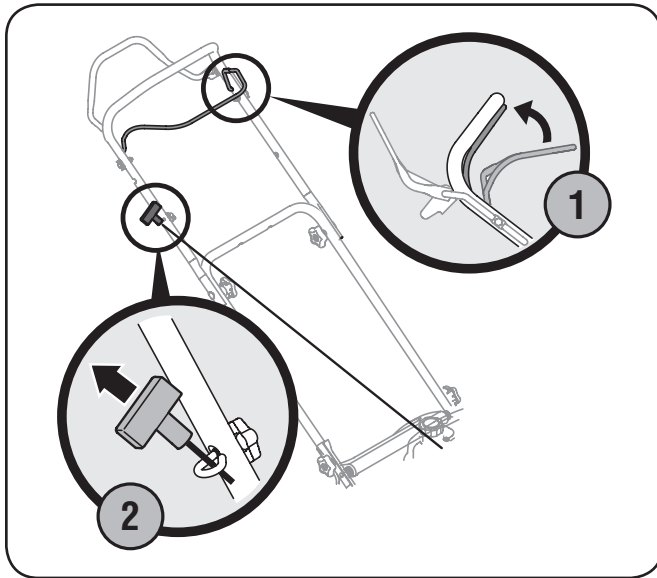

Figure 5-3
1. Standing behind the mower, depress the blade control handle and hold it against the upper handle. See Fig. 5-3.